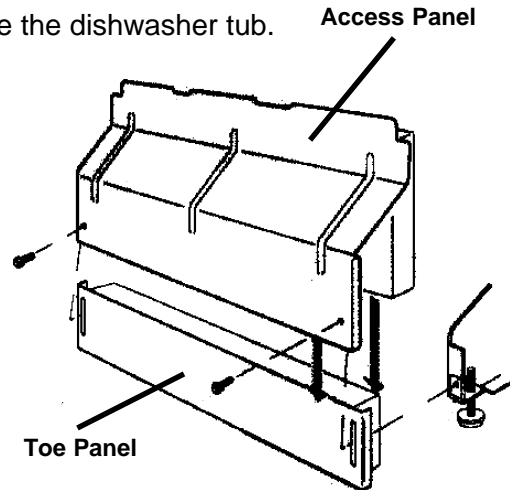

Fig. 3-15
1. Remove the access and toe panels from underneath the dishwasher door by removing the two (2) screws securing it to the dishwasher frame. (Fig. 3-15)